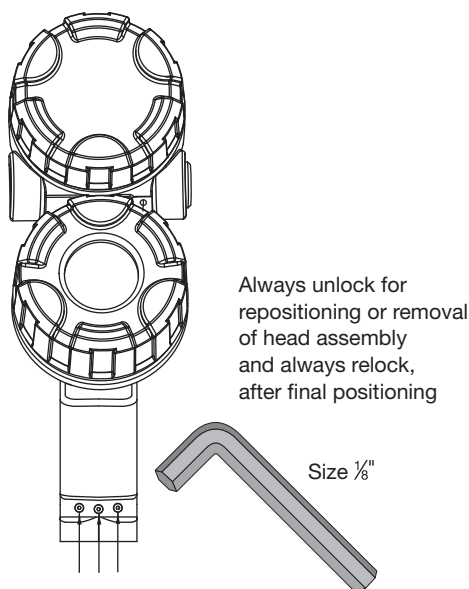

Figure 7
See Figure 7.
3. Loosen the transmitter head lock screws (socket type) and position conduit outlet in the desired direction. See Figure 7.